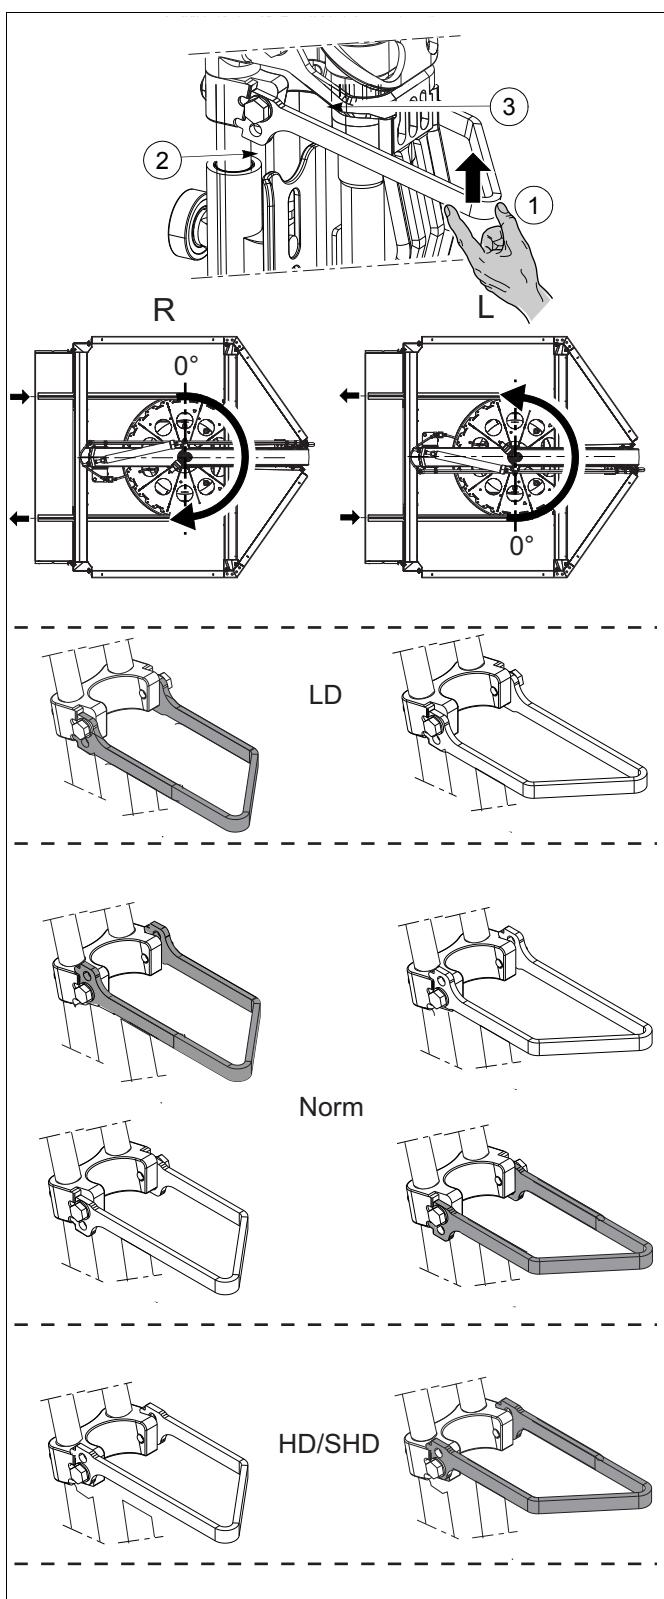

fig. 29 Adjust spreader bracket
2. Place the spreader bracket according to the machine execution and the configuration of fig. 29.
See fig. 29.